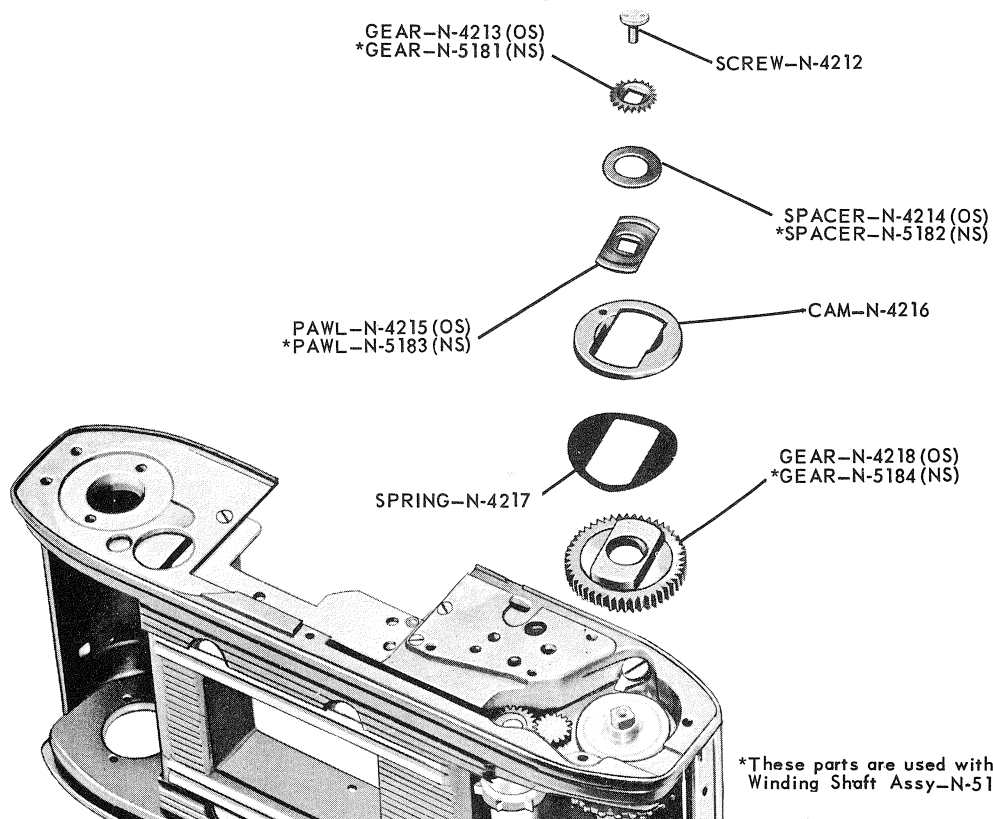

FIGURE 16
*See figure 16 for parts used with this assembly.